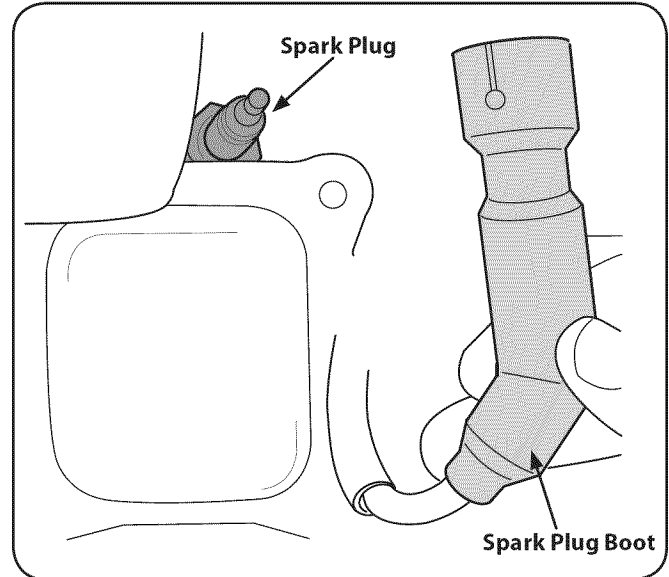

Figure 7-3
1. Remove the spark plug boot and use a spark plug wrench to remove the plug, Fig. 7-3.